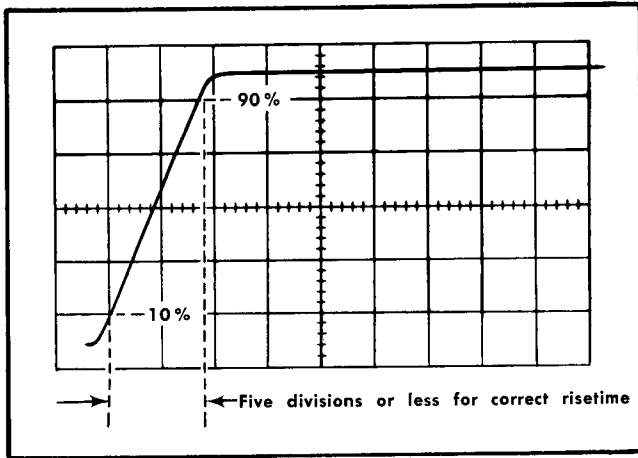

Fig. 5-32. Typical CRT display when checking calibrator risetime.
- d. CHECK—CRT display for five divisions or less between the 10% and 90% points on the leading edge of the calibrator waveform (one microsecond, or less, risetime; see Fig. 5-32).